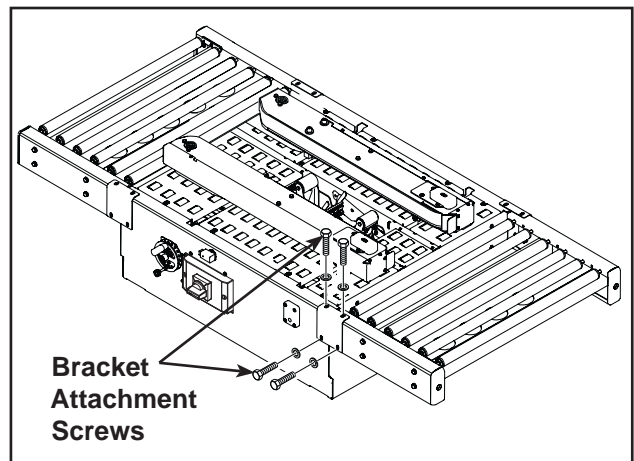

Figure 2 Conveyor Infeed and Exit Extension Support Bracket Installation
5. Attach the conveyor extension over the screws using the inverted keyholes in the end of the conveyor. Tighten all four (4) screws with a 13mm wrench.
6. Refer to **Figure 2**. Set the conveyor bracket over the joint between the conveyor and the case sealer frame on each side and secure them with four (4) M8 x 16 hex head screws and washers.